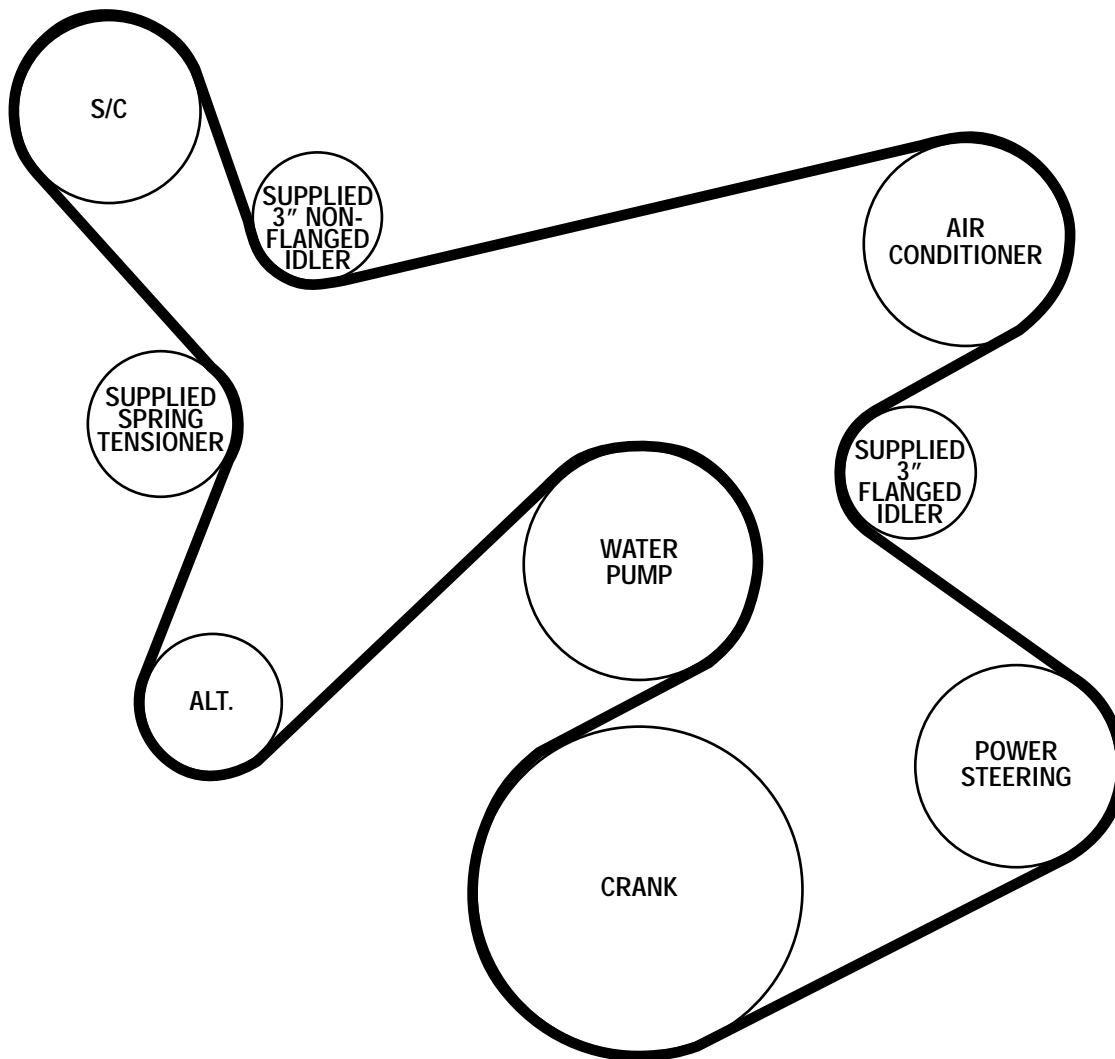

Fig. 6-a
- A. Separate the spacer and hardware from the factory idler removed in step 1. Using the supplied flanged idler and spacer with hardware mentioned above, secure the idler to the threaded boss located on the face of the air conditioner compressor pump mounting bracket. (See *Fig. 6-a*.)